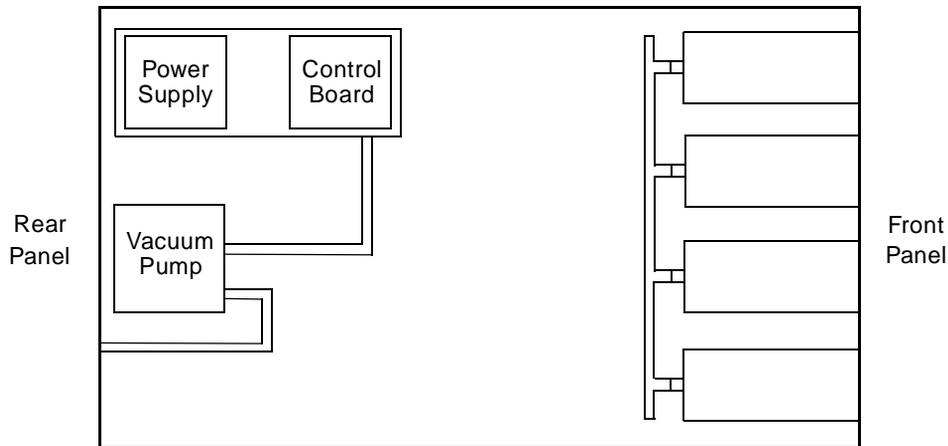

Figure 5-5 Vacuum Connections to Test the Vacuum Pump
4. Connect the vacuum tubing from the pump directly to the control board assembly as shown in Figure 5-5.